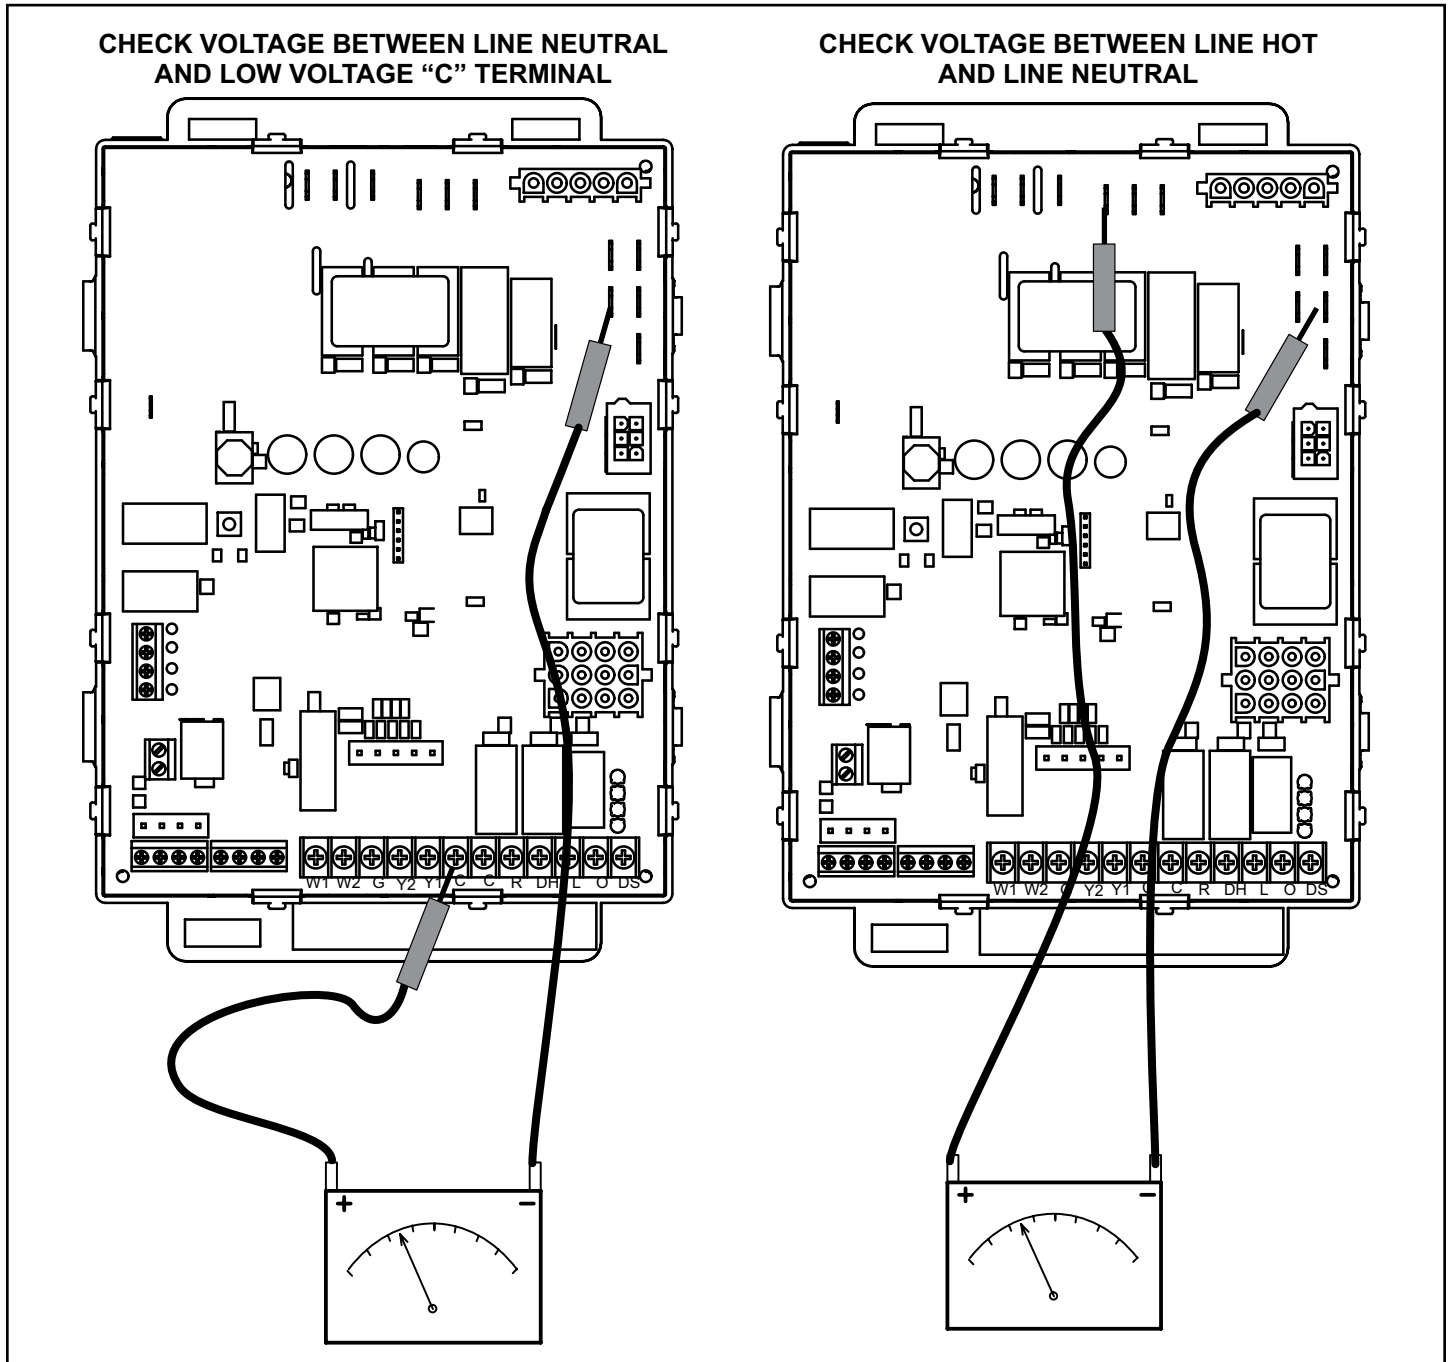

Figure 46.
1. Measure the AC voltage between Line Neutral (spade terminals) and "C" terminal (low voltage terminal block) on the integrated control. See Figure 46. A wide variation in the voltage between Line Neutral and "C" as a function of load indicates a poor or partial ground. Compare the readings to Table 29. If the readings exceed the maximum shown in Table 29, make repairs before operating the furnace.
2. In addition, measure the AC voltage from Line Hot to Line Neutral (spade terminals) on the integrated control. See Figure 46. This voltage should be in the range of 97 to 132 Vac.